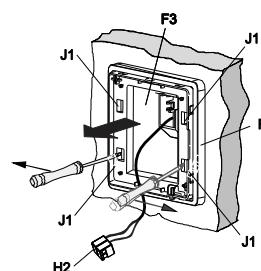

Figure 9: Remove the back housing
- Insert screwdriver to the holes (J1), and press as showed in Figure 9.